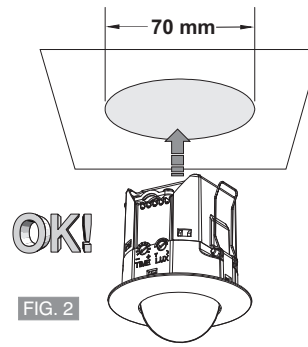

FIG. 2
- Drill a diameter of 70 mm round hole on the false ceiling (fig. 2).